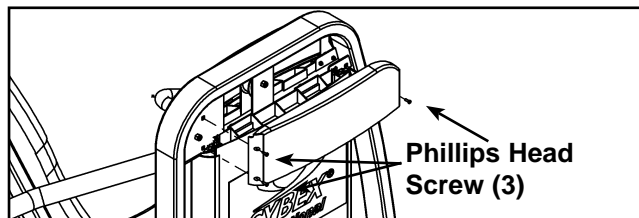

Figure 5
- E. Remove the three Phillips head screws securing the top (back) shroud and carefully remove the shroud. See Figure 5.